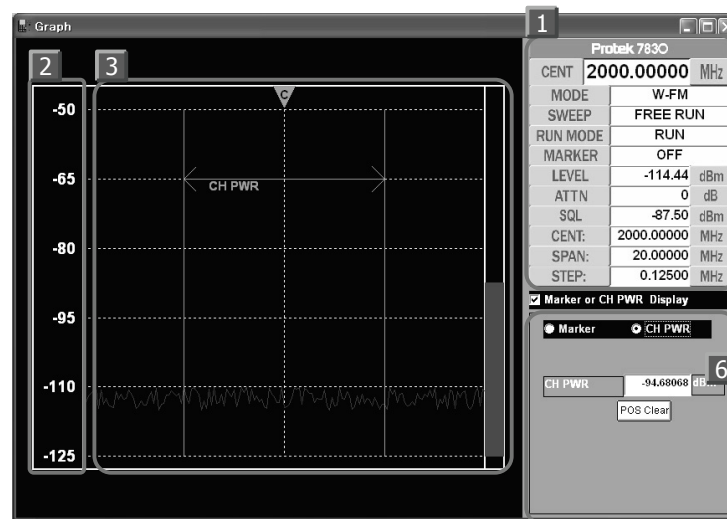

Figure 4.18. Information of Channel Power of Graph window
- 17) Figure 4.18 note 6 is channel power information, as previously stated if user on “marker or CH PWR display” check “Check” & “check power list” it could be convert. Note 6 channel power display part be shown CH PWR(channel power) value is between marker 1 to marker 2 value.